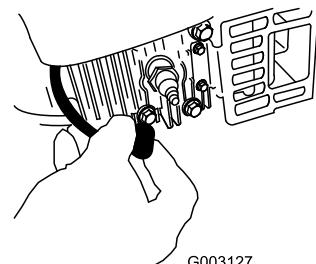

Figure 37
- Disconnect the spark plug wire from the spark plug (Figure 37) before performing any maintenance procedure.